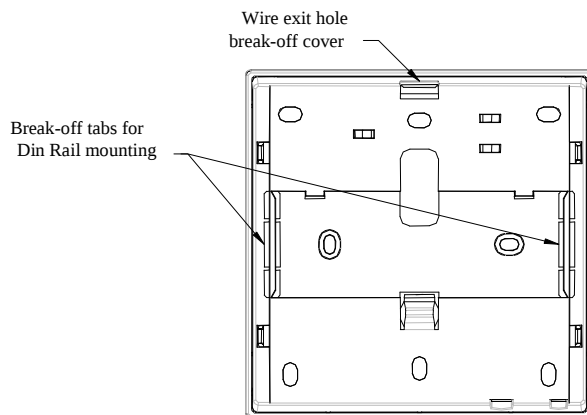

Figure 4: DIN Rail Installation – Break Off
2. Break off the tabs to expose the DIN rail channels in the base plate (Figure 4).
3. Break off the cover from the exit hole (Figure 4)